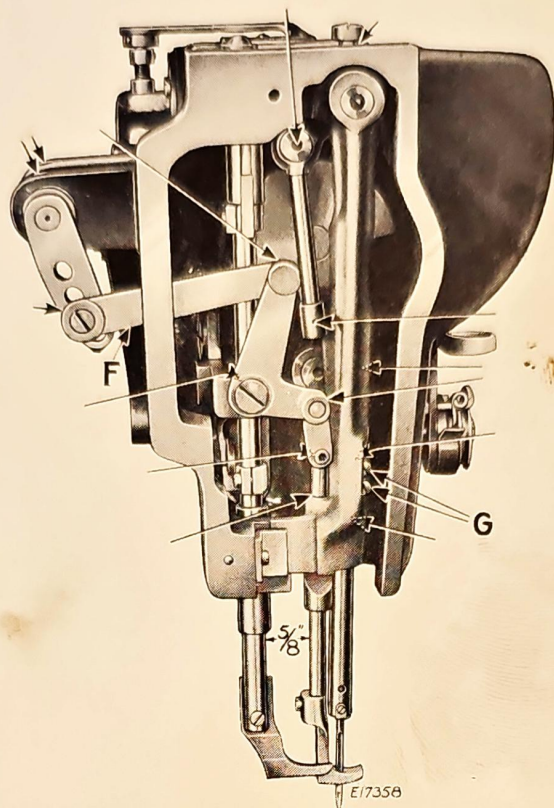

Fig. 4. End View of Machine Showing Oiling Points
In case the needle bar is not correctly set, loosen the needle bar connecting stud pinch screws at (G, Fig. 4) and place the needle bar in correct position as directed above, then retighten the screws (G).